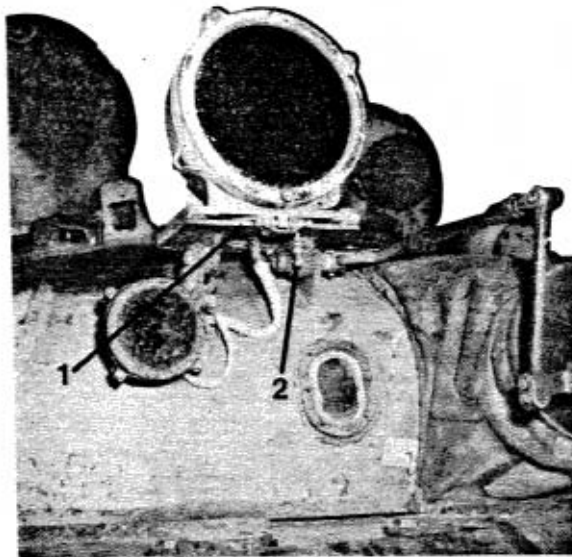
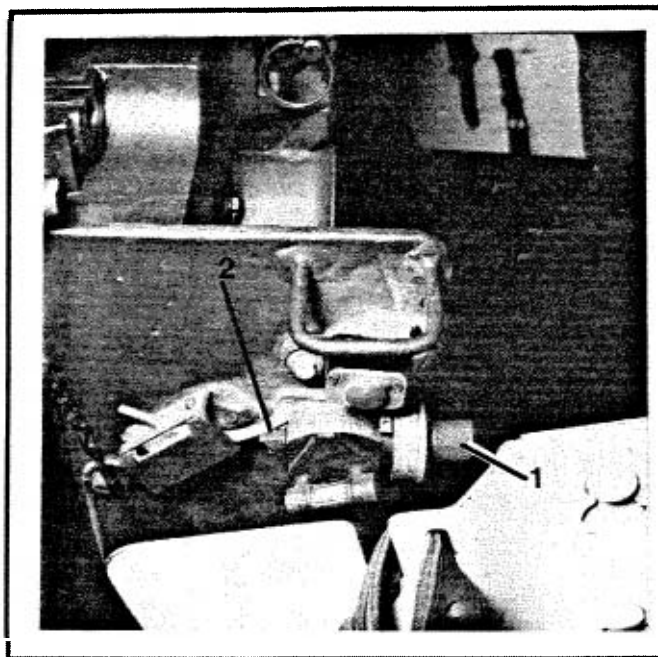

FIG. 3-111. L-2G ADJUSTMENT LINKAGE
FIG. 3-112. GUNNER'S QUADRANT
(3) Turn on TPN 1-41-11 IR periscope after removal of metal protective cover.
(4) Place aiming point apex on object target with turret manual controls.
(5) If the searchlight beam does not coincide horizontally with the TPN 1-41-11's field of view, loosen bracket mounting bolts (Fig. 3-111) and turn horizontal adjusting bolts until the brightest part of searchlight beam is centered on target object.
(6) If the searchlight beam does not coincide vertically with the TPN-1-41-11's field of view, turn vertical adjustment bolts on double-arm lever (Fig. 3-111) of bracket slotted shaft to align searchlight beam with field of view.
(7) Tighten lock nuts on adjusting bolts and bracket mounting bolts.
g. Gunner's Quadrant (Fig. 3-112). To boresight the gunner's quadrant:
(1) Place an M-1 quadrant on gun breech parallel to axis of gun.
(2) Center M-1 quadrant bubble by rotating the manual elevation handcrank.
(3) Center gunner's quadrant bubble by rotating quadrant knob (Fig. 3-112).
(4) If zero graduation on collar is not opposite index, loosen set screw (Fig. 3-112) and rotate knob until zero is opposite index, and tighten set screw.